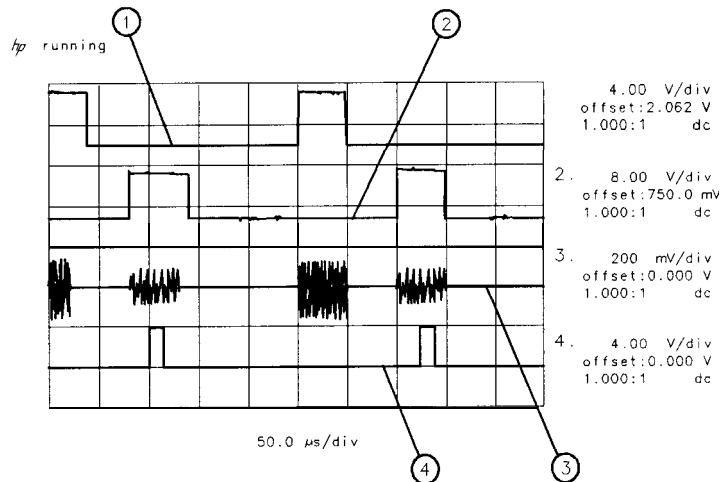

Figure 5-24. Placing the Gate Output During the Second Signal
- To view the second signal, change the gate delay so that the gate output is under the second signal. Since the second signal had a signal delay of approximately $85 \mu\text{s}$, we set the gate delay to $85 \mu\text{s}$ plus the pulse width/2, or $110 \mu\text{s}$. Press **[SWEEP]**, Gate Control , GATE DELAY 110 **[μs]** to set the gate delay to $110 \mu\text{s}$. Using an oscilloscope can be helpful in placing the gate output during the pulsed signal. See Figure 5-24.
Item	Description of Items in Figure 5-24